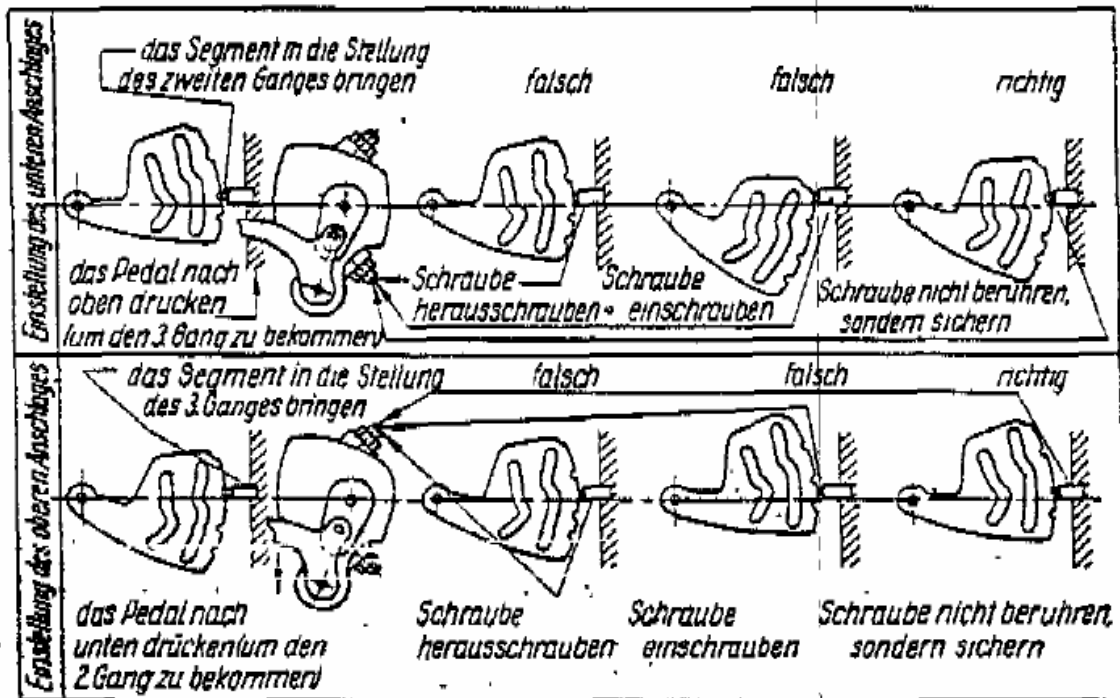

Fig 13
4. During the transition of a large gear to a smaller the quadrant shifts too much and the determination recess of the segment passes the determination ball. In this case one must loosen the lock nut and screw the upper adjusting screw in lever. The attitude of the transmission is shown in the fig. 13.